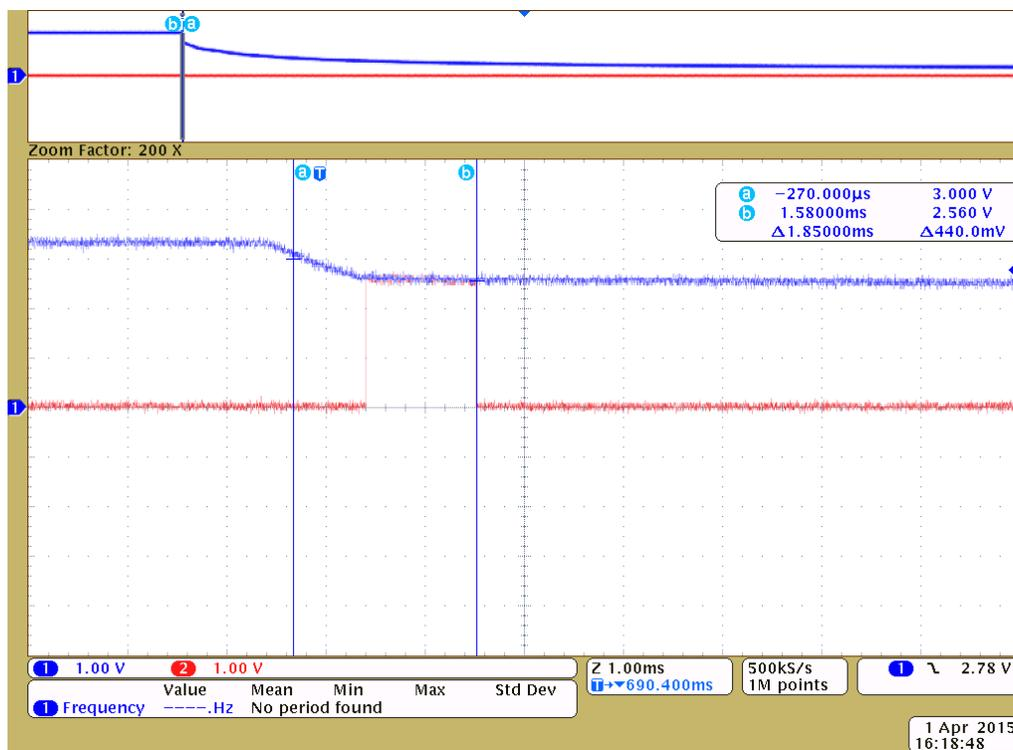
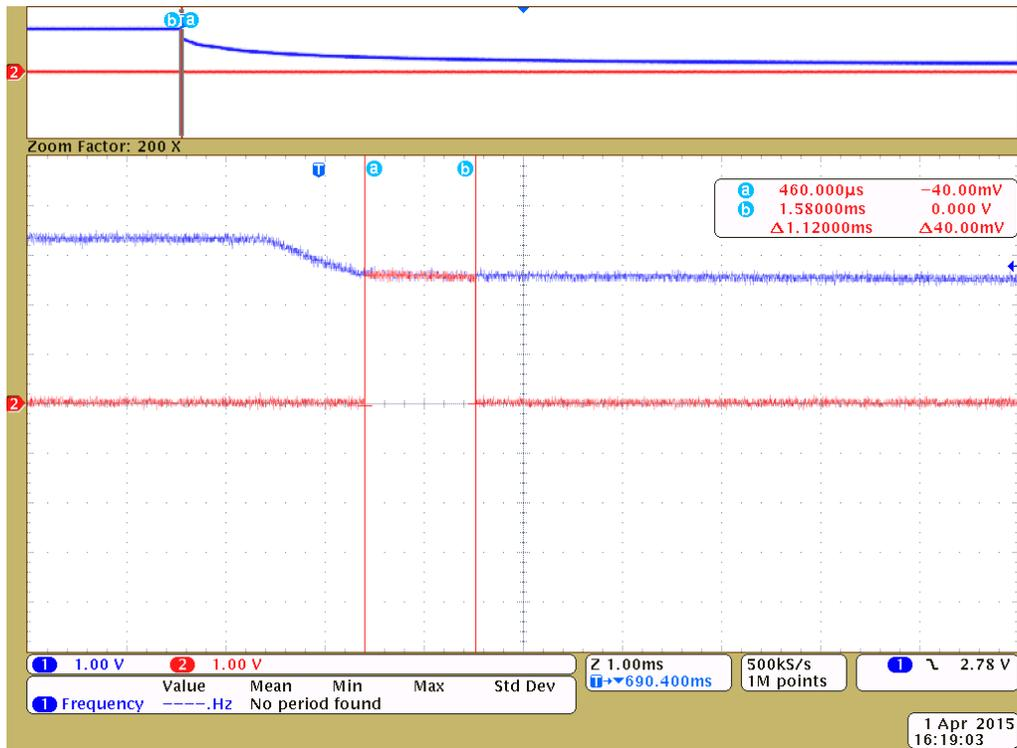

Figure 3. VCC Drop When Micro-USB is Disconnected
Figure 4. Ctpl_enterShutdown() Execution Time at 1 MHz
Figure 3 shows the VCC voltage drop when the Micro-USB of the LaunchPad™ is disconnected and `ctpl_enterShutdown()` is executed. Figure 3 shows that the device executes the shutdown routine when the VCC reaches 2.6 V. Figure 4 also shows the execution time of `ctpl_enterShutdown()` at a CPU operating frequency of 1 MHz or approximately 1.12 ms.
Figure 4 illustrates that the application enters shutdown mode (LPM4.5) at approximately 2.56 V; a significant margin before the device enters brownout reset (approximately 1.8 V). For more information, see *MSP430FR698x(1), MSP430FR598x(1) Mixed-Signal Microcontrollers (SLAS789)*.